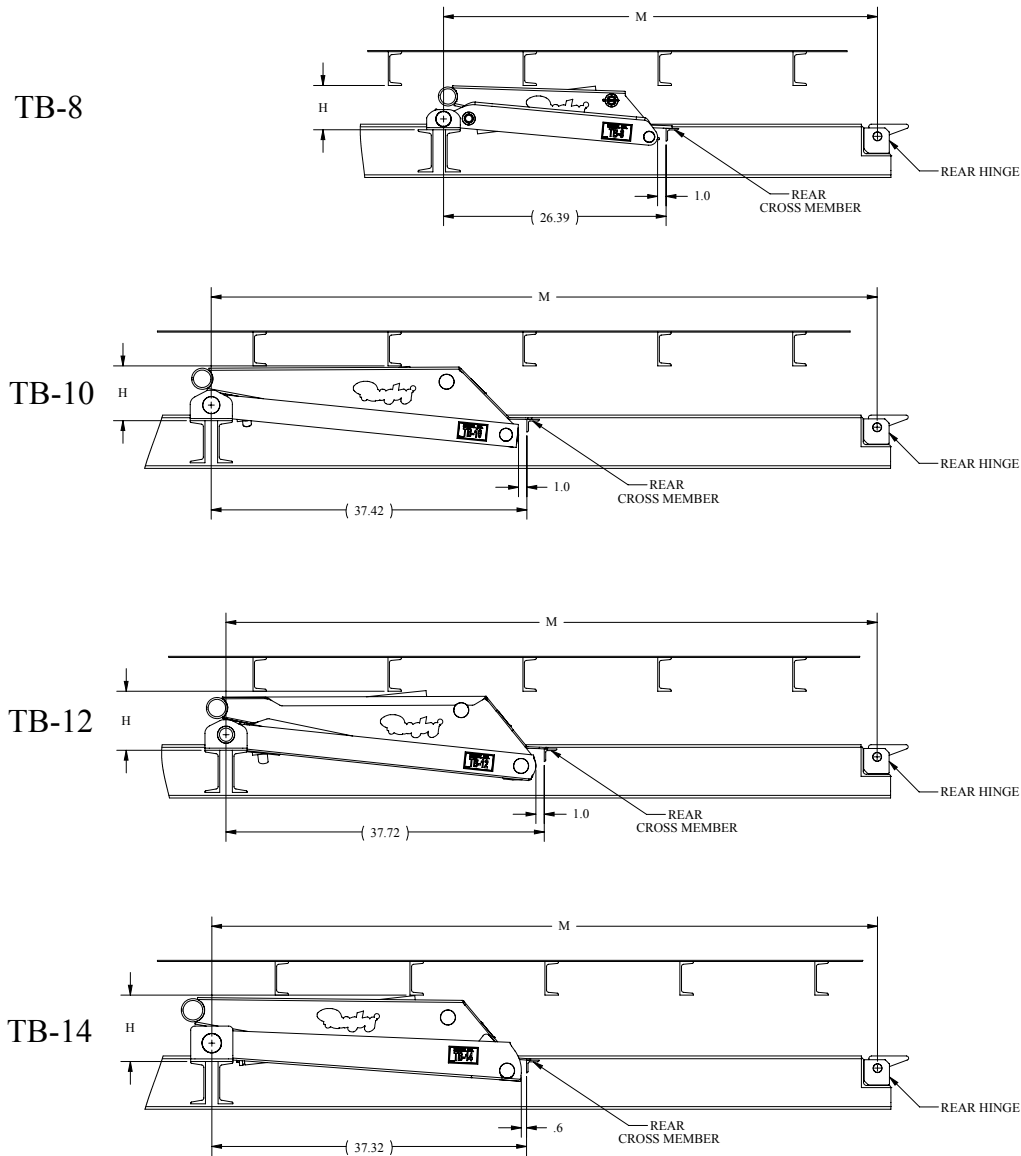

Figure 6
2. Position the cross members, hoist, & rear hinge onto the trailer frame as shown in Figure 6. The top of the front & rear cross members should be at the same height.